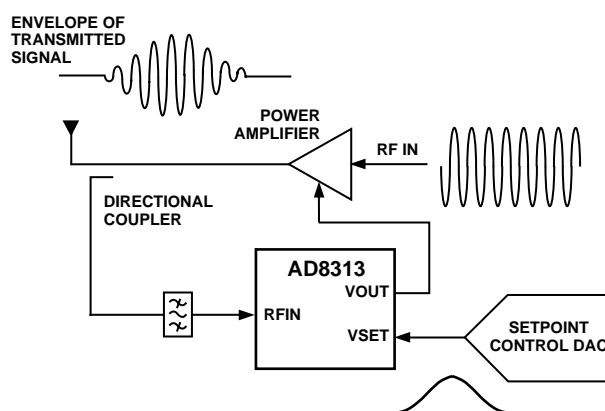

Figure 29. Setpoint Controller Operation
This mode of operation is useful in applications where the output power of an RF power amplifier (PA) is to be controlled by an analog AGC loop (Figure 29). In this mode, a setpoint voltage, proportional in dB to the desired output power, is applied to the VSET pin. A sample of the output power from the PA, via a directional coupler or other means, is fed to the input of the AD8313.